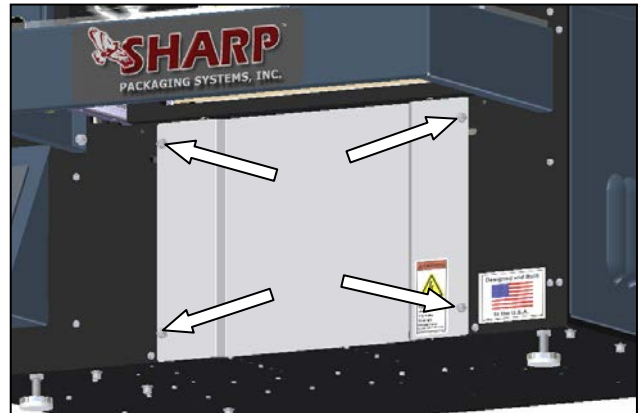

Figure 3-60. Load Plate Screws
3. Remove the four screws holding the Load Plate, set screws and Load Plate aside (Figure 3-60.)